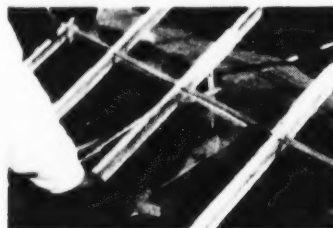

Figure 2
2. Remove the broken glass (Figure 2). **CAUTION!** Be sure there is no one in the greenhouse under the area where you are working.